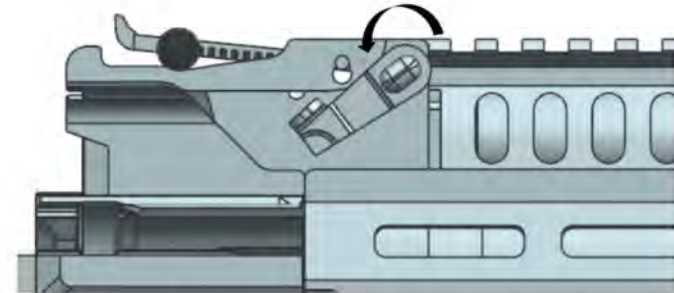

Fig. 25 Condition of cover retaining pin pressing against upper handguard
4.2.1 Reassemble the piston, gas control, lower handguard, bolt carrier plunger guide and upper handguard. After that be sure to turn the cover retaining pin handle so that the curved surface of the pin is pressed against the upper handguard as shown in Fig. 25.